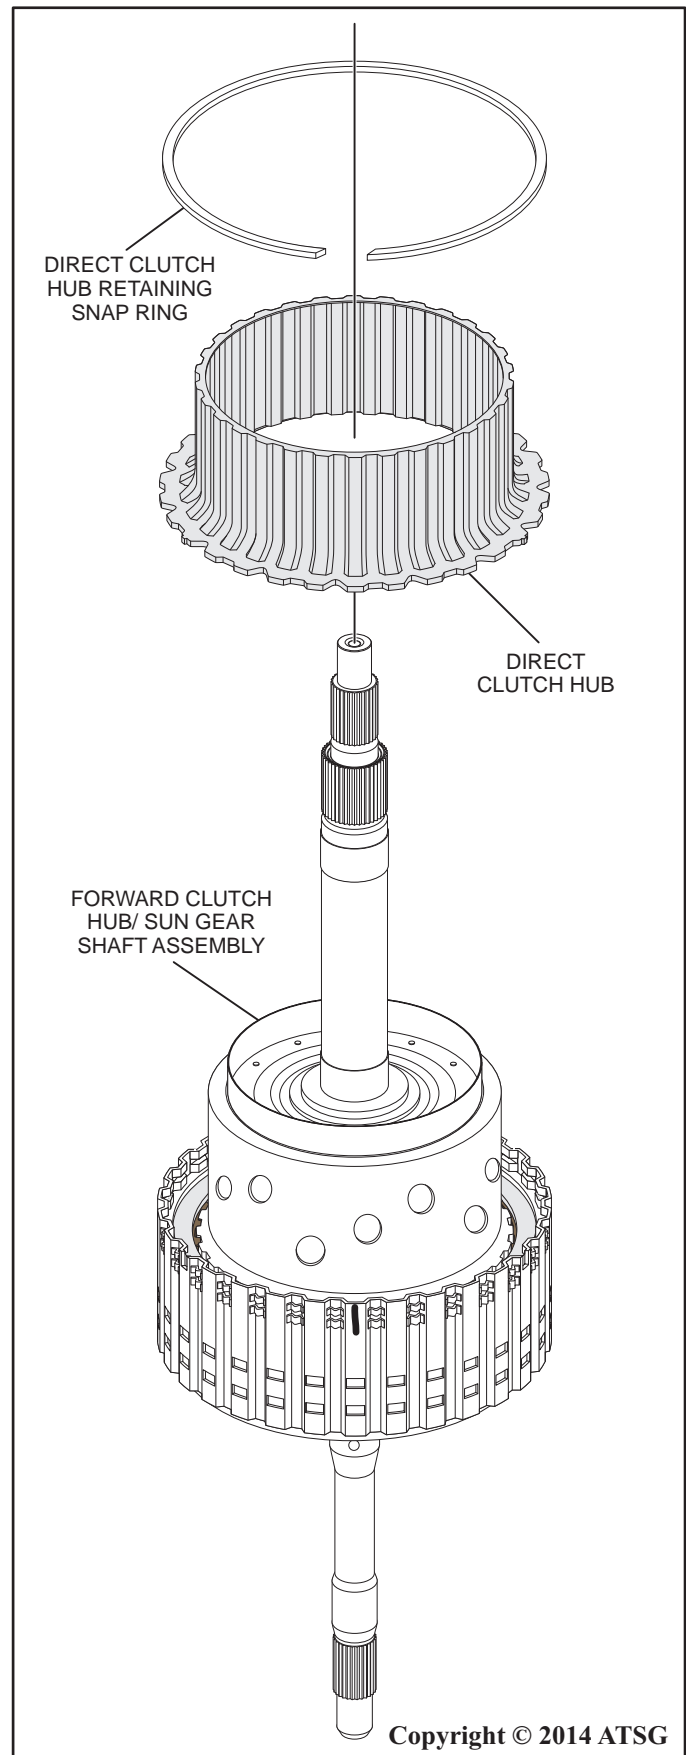

Figure 71
2. Using a small screwdriver, carefully remove and discard the direct clutch hub retaining snap ring as shown in Figure 71.
3. Remove the direct clutch hub from the forward clutch housing as shown in Figure 71 and discard it.